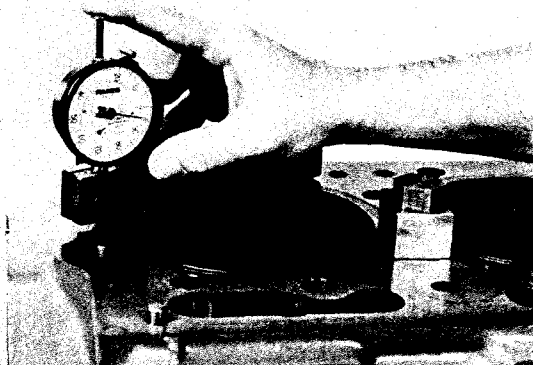

Fig. 14-4, (N114241). Checking cylinder liner protrusion
6. Use ST-547 Gauge Block to determine if protrusion meets specifications. Fig. 14-4.